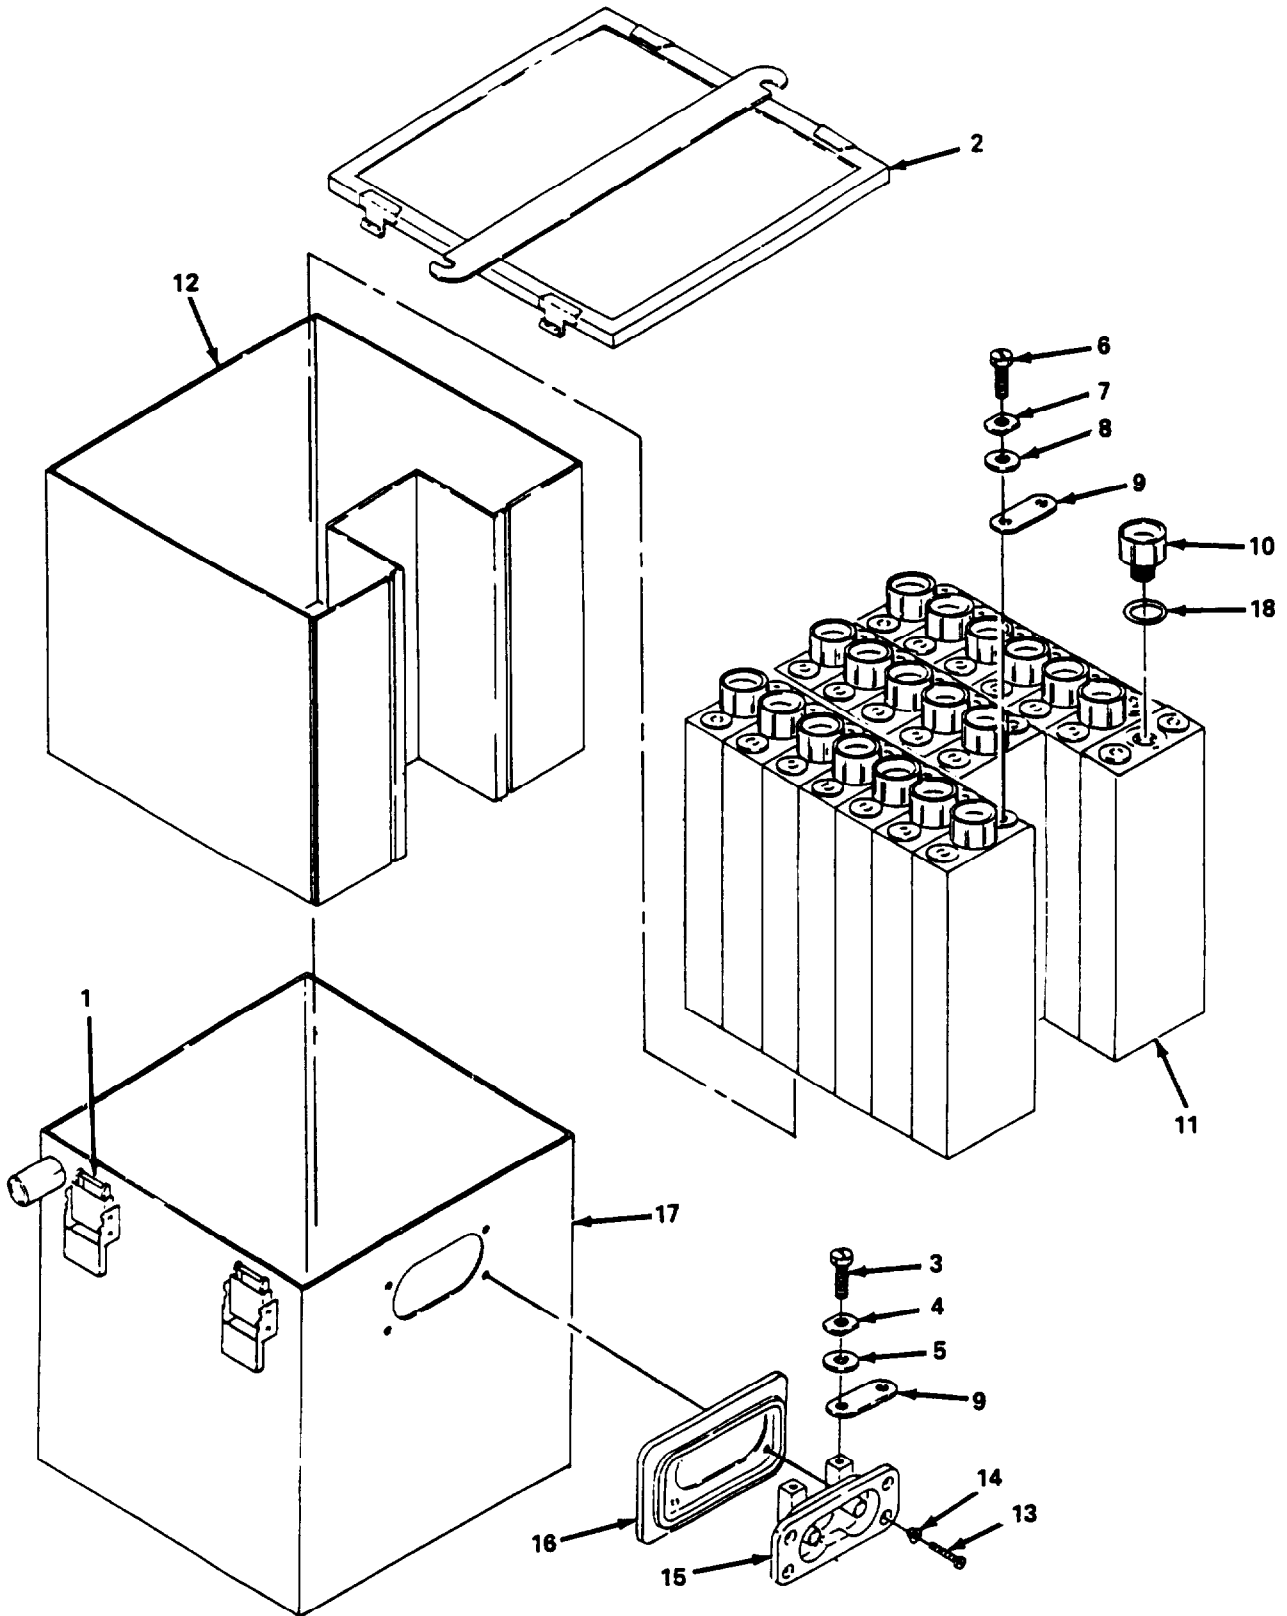

Figure 3-13. Battery BB-433A/A Disassembly.
a. Disassembly/Reassembly (fig. 3-13).
- (1) Unsnap four latches (1) and remove cover (2).
- (2) Discharge battery (para 3-10).
- (1) Discharge battery (para 3-10).
- (2) To remove any of the above items, refer to the exploded view (fig. 3-13) and the appropriate sections of paragraph 3-18.a.
- (3) Upon completion of repair, perform the test procedures contained in paragraph 3-18c below.